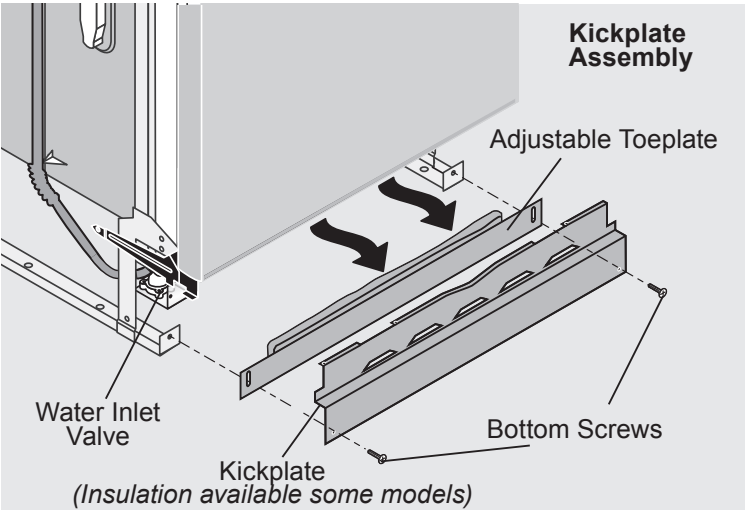

Figure 1
- Remove two (2) screws at front of the kickplate assembly using a #2 Phillips screw driver.
- Tilt and pull forward to remove. See Figure 1.